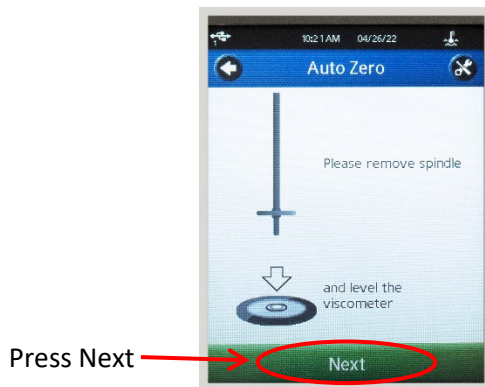

Figure 10: Auto Zero Screen
- d. On Head Unit, from the **Auto Zero** Screen, press **Next**. See Figure 10.
5. Press **Next** on the **Auto Zero** screen to start the auto-zero process. See Figure 10.